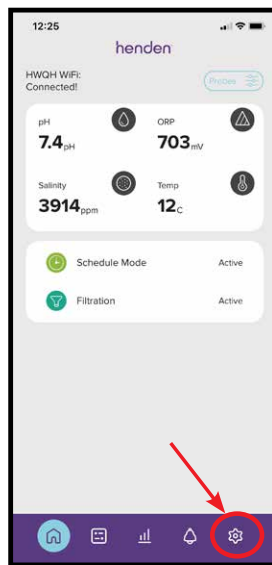

Figure 9.84
- From the dashboard, go to the “settings” menu by using the modes button (refer Figure 9.84).